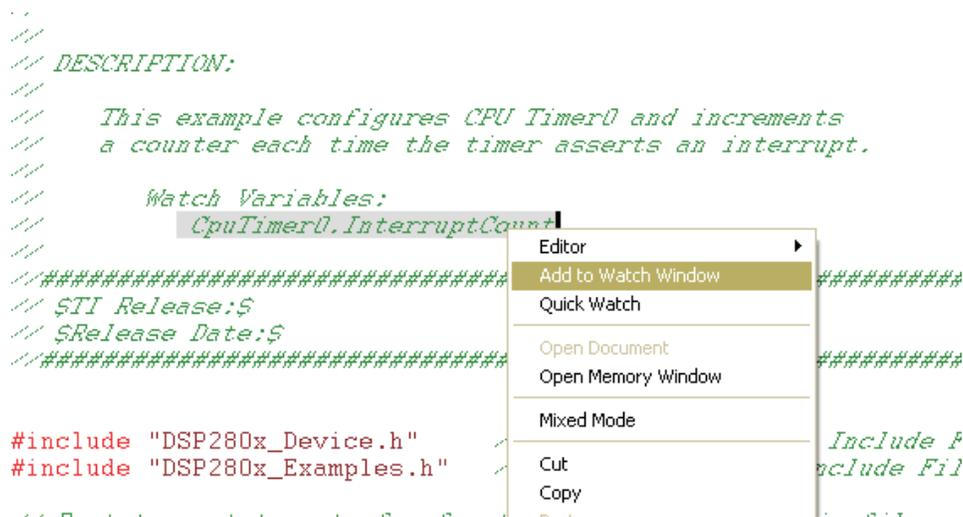

Figure 5. Adding Variables to the Watch Window
7. Now set up the Watch window by highlighting the variable or register to be observed (CpuTimer0.InterruptCount), right-clicking, and selecting "Add to Watch Window" as shown in Figure 5. Another option is to type the register name or variable directly into the Watch Window.